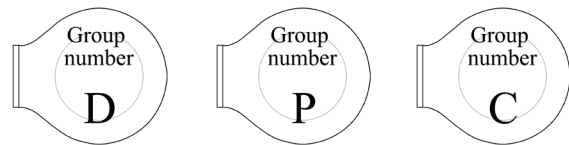

Fig. 3
2. Label the lid of the 3 micro-centrifuge tubes “D”, “P” and “C” with your group number (Fig. 3).